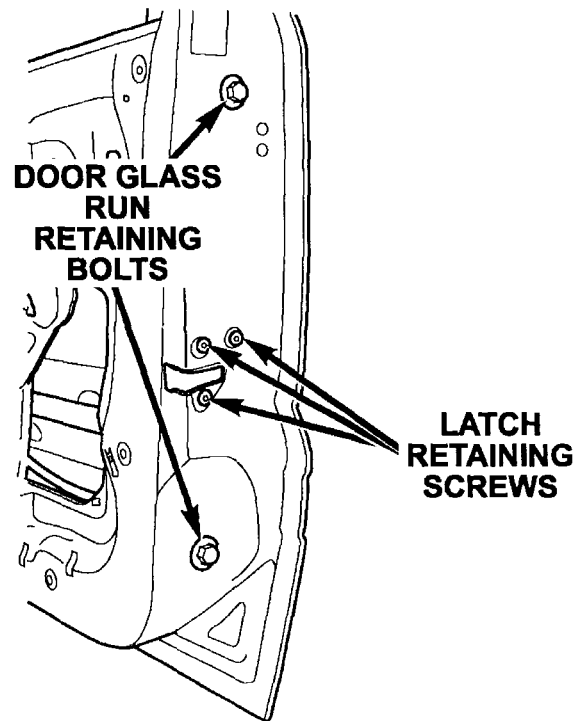

Figure 2
6. Remove the two door glass run retaining bolts (Figure 2).
8. Remove the three latch retaining screws (Figure 2).
27. Install the two bolts that hold the door glass run in position (Figure 2). Tighten the bolts to 80 in. lbs (9 N·m).